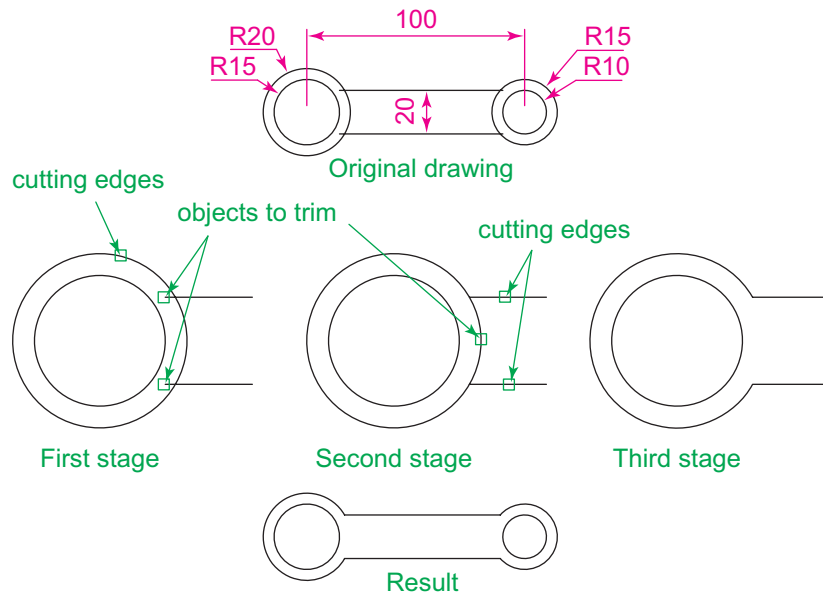

Fig. 5.31 First example – Trim
First example – Trim (Fig. 5.31)
1. Construct the drawing **Original drawing** in Fig. 5.31.
3. This completes the **First stage** as shown in Fig. 5.31. Repeat the **Trim** sequence for the **Second stage**.
4. The **Third stage** drawing of Fig. 5.31 shows the result of the trims at the left-hand end of the drawing.
- Repeat for the right-hand end. The final result is shown in the drawing labelled **Result** in Fig. 5.31.